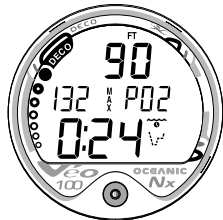

Fig. 26 - NITROGEN IN CONTROL
- If the Tissue Loading Bar Graph is displayed (Fig. 26), that next dive is calculated to be controlled by nitrogen loading.